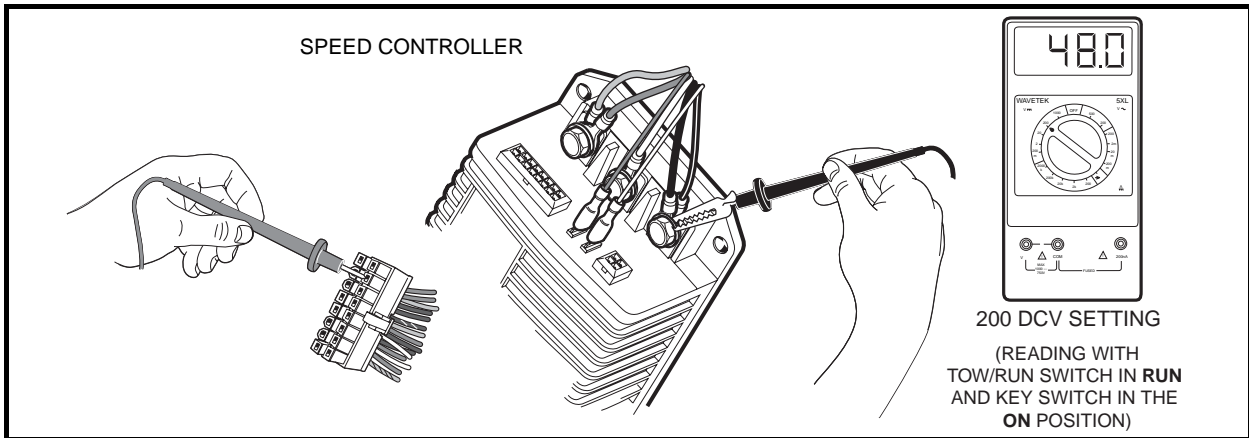

Figure 11-16 Pin 10 Test
4. Using a multimeter set for 200 volts DC, insert the red (+) probe of the multimeter into pin 10 (tan wire) of the 16-pin connector. **See following CAUTION.** Using an alligator clip, connect the black (–) probe to the B– terminal of the speed controller (**Figure 11-16, Page 11-31**).